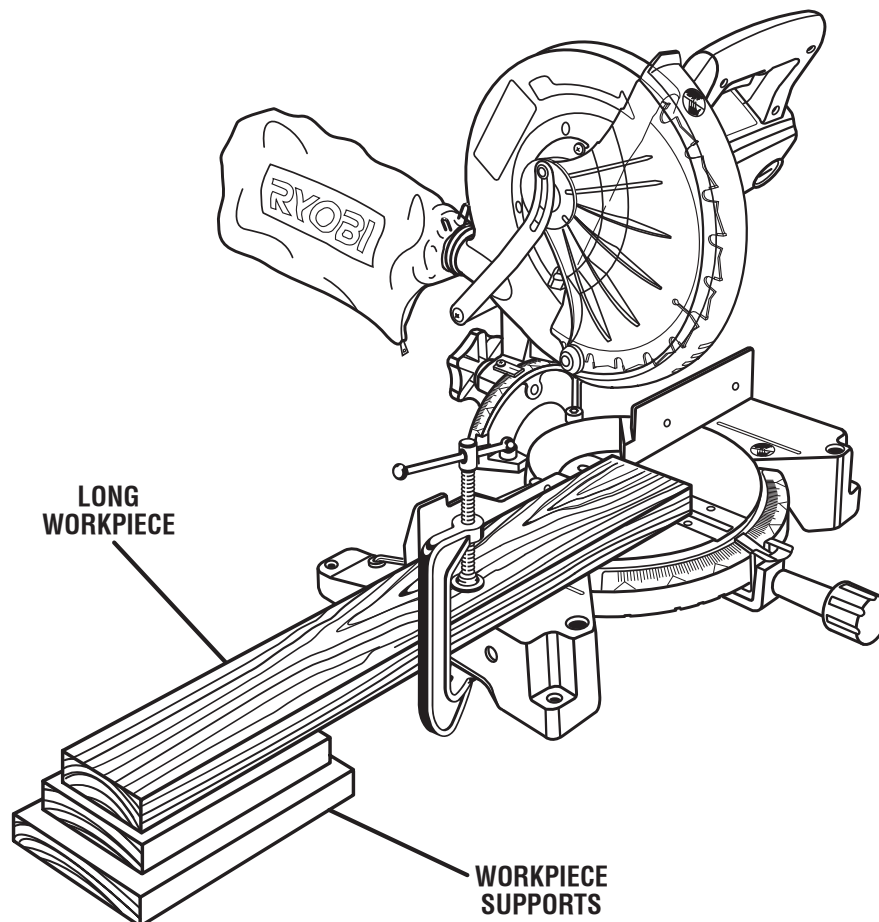

Fig. 30
- When cutting long pieces of lumber or molding, support the opposite end of the stock with a roller stand or with a work surface level with the saw table. *See Figure 30.*
- When cutting long pieces of lumber or molding, support the opposite end of the stock with a roller stand or with a work surface level with the saw table. See *Figure 30*.
See Figure 30.